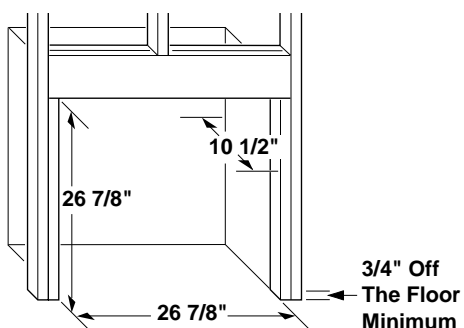

Figure 8 - Rough Opening for Installing in Wall
1. Frame in rough opening. Use dimensions shown in Figure 8 for the rough opening.